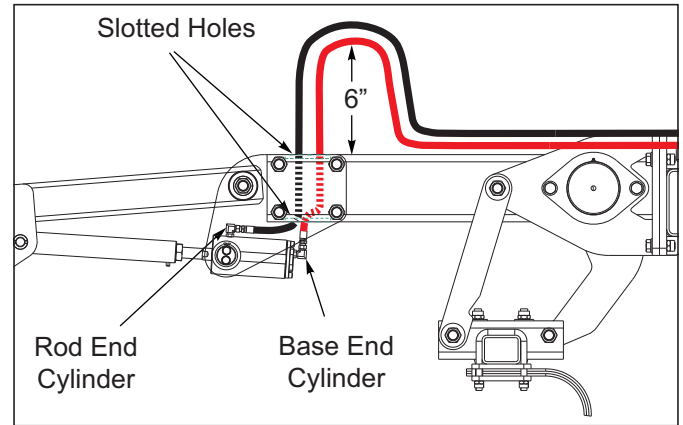
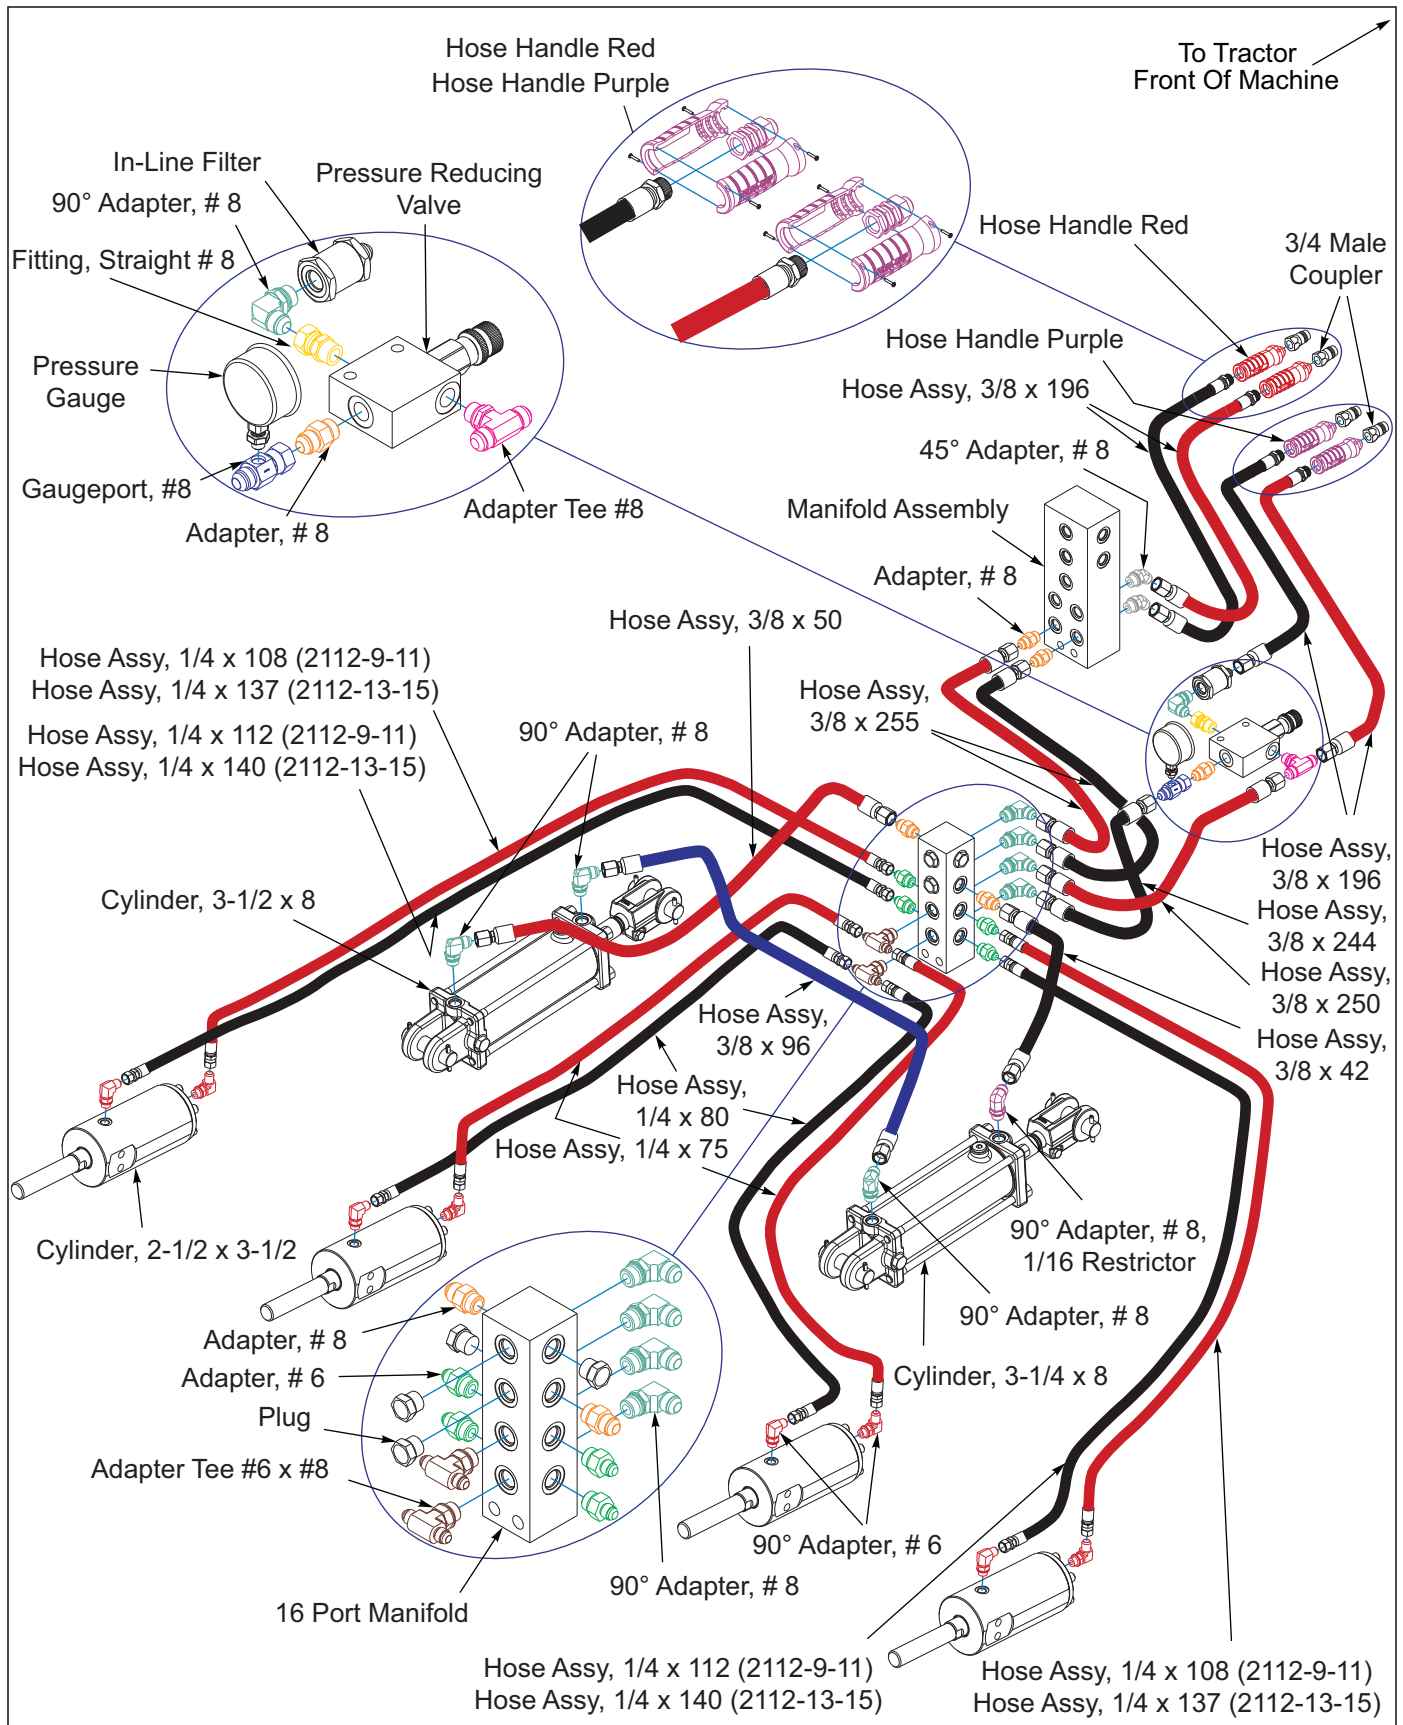
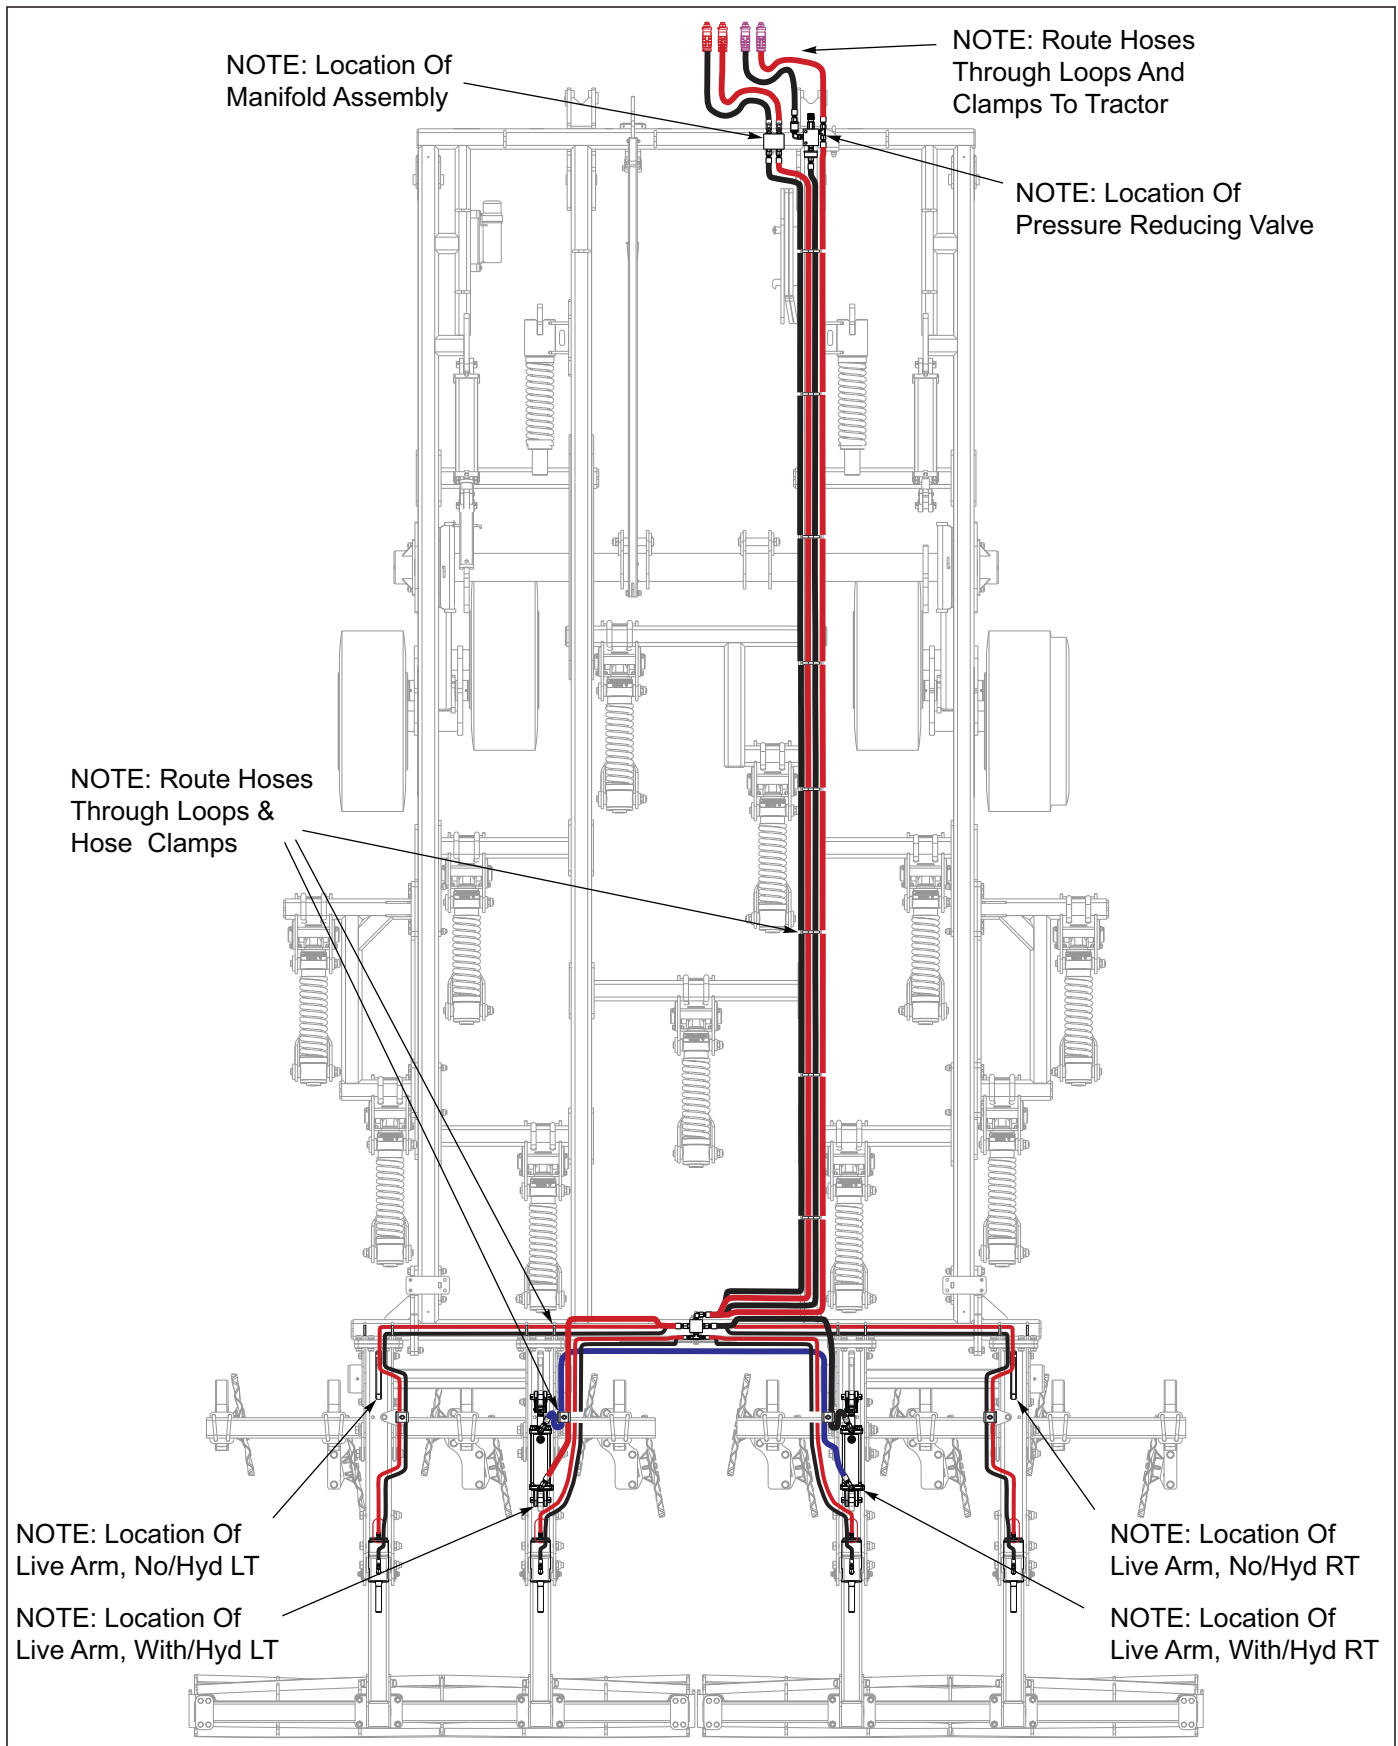

Figure 3-38: Hose To Cylinder Installation
Figure 3-40: Disc Lev/Hyd Hydraulic Installation
Figure 3-41: Disc Lev/Hyd Hydraulic Layout
13. Attach hoses down through the slotted holes of arm assemblies to cylinders as shown See Figure 3-38. The reel base end of cylinder hose hooks to 2nd bottom ports of 16 port manifold. Rod end hose of cylinder hooks to bottom side ports of 16 port manifold See Figure 3-40
15. Route hoses as shown See Figure 3-40 and See Figure 3-41.